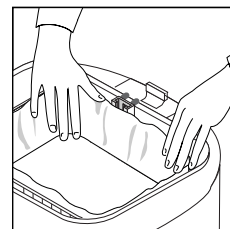

fig. 9
7. Hook the basket to the rim of the bowl and place the filter supplied in the bottom of the basket (Fig. 9).